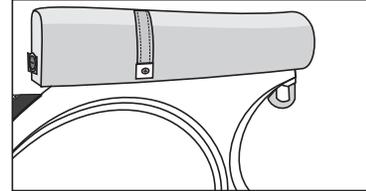

Fig. 18
**6. HOOK FOR BAG:** There is a hook for hanging a bag under the seat (Fig. 18).